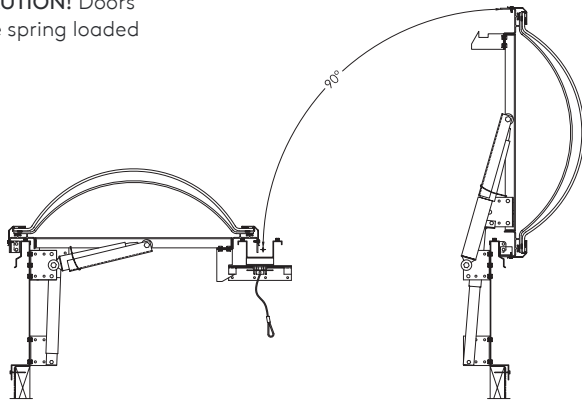

Figure 8.0
- **Safety Caution:** Do not stand over the smoke vent doors when shipping straps are removed or during subsequent testing. Smoke vents are preloaded with high tension coil springs. (See Figure 8.0) If an installer were to get struck in the upper torso or head by an opening smoke vent door the result could be serious injury or death.